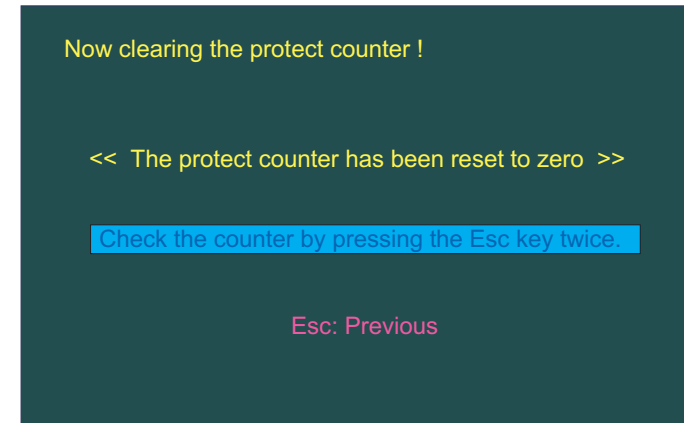

Figure 5-18. Resetting the Protection Counter
3. Select **Already replaced**. The screen shown in Figure 5-18 appears, indicating that the protection counter has been reset.